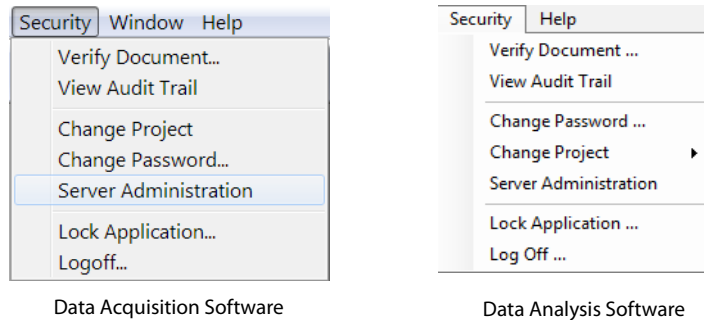

Figure B-29: Security > Server Administration Menu
- **Data Acquisition and Data Analysis software**—Click **Security** > **Server Administration** (Figure B-29).